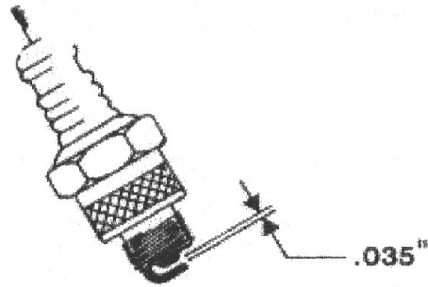

FIGURE 8 - SPARK PLUG GAPPING
2. Clean electrodes with a stiff wire brush and re-gap to 0.35' using a feeler gauge (see Figure 8).